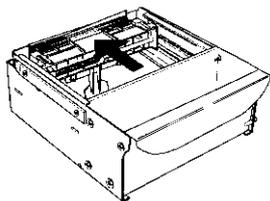

Figure 4-23. Release packer plate.
4. Release the pusher plate against the notes. When loading the note tray to full capacity, make sure that the pusher plate has a leeway of approximately 1/4-inch (5 mm) between the wall plate and the pusher plate (Figure 4-23).